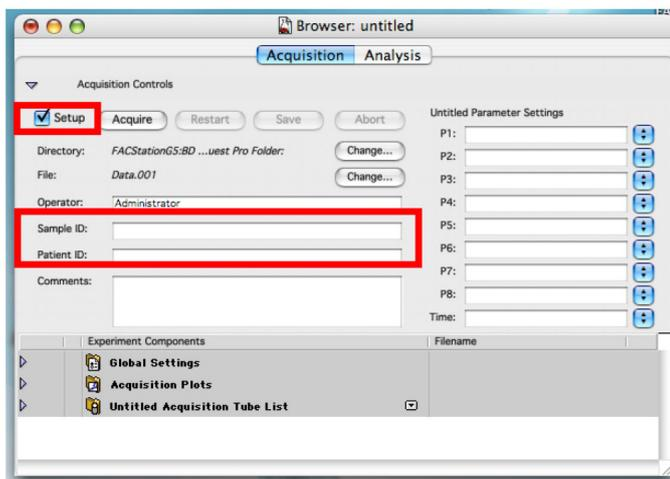

Figure 10. Preparing the acquisition
17. Click on the 'Set Up' check box to remove the check and write the name of your first sample in the sample text box (Figure 10).
You can also use the patient text box to write part of the name that will not change often. As an example, if you are doing time dependent curve with two cell lines, write the cell line's name in the patient text box and the time point in the sample text box (Figure 10).